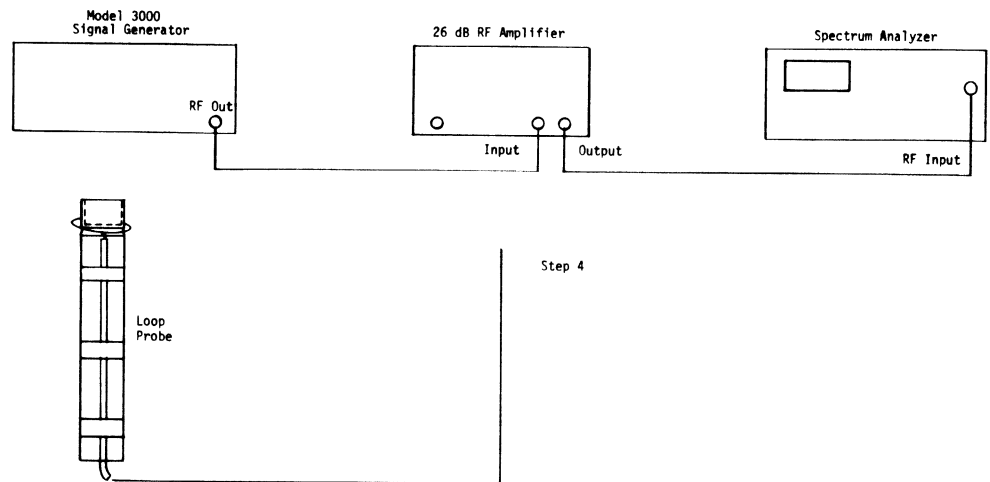

Figure 4-10. RF Leakage Setup
2. Connect the equipment as shown in Figure 4-10.